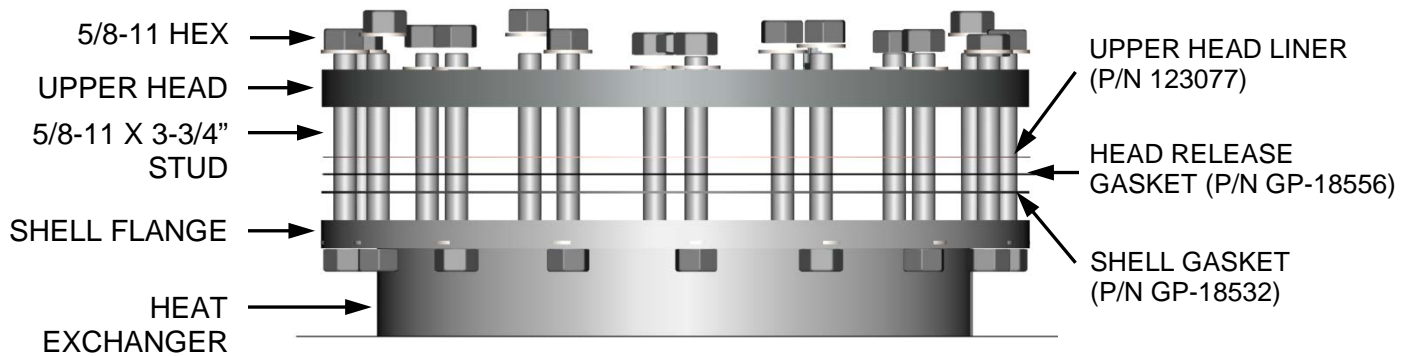

Figure 6-7. Heat Exchanger Head Configuration
The waterside of the heating surfaces is inspected by removing the top heater head (see Figure 6-7). Prior to performing the inspection, ensure that the following replacement parts are available:
4. Referring to see Figure 6-7, below, remove the 5/8-11 hex nuts and washers from the upper head, and then remove the upper head, upper head-liner and gaskets.